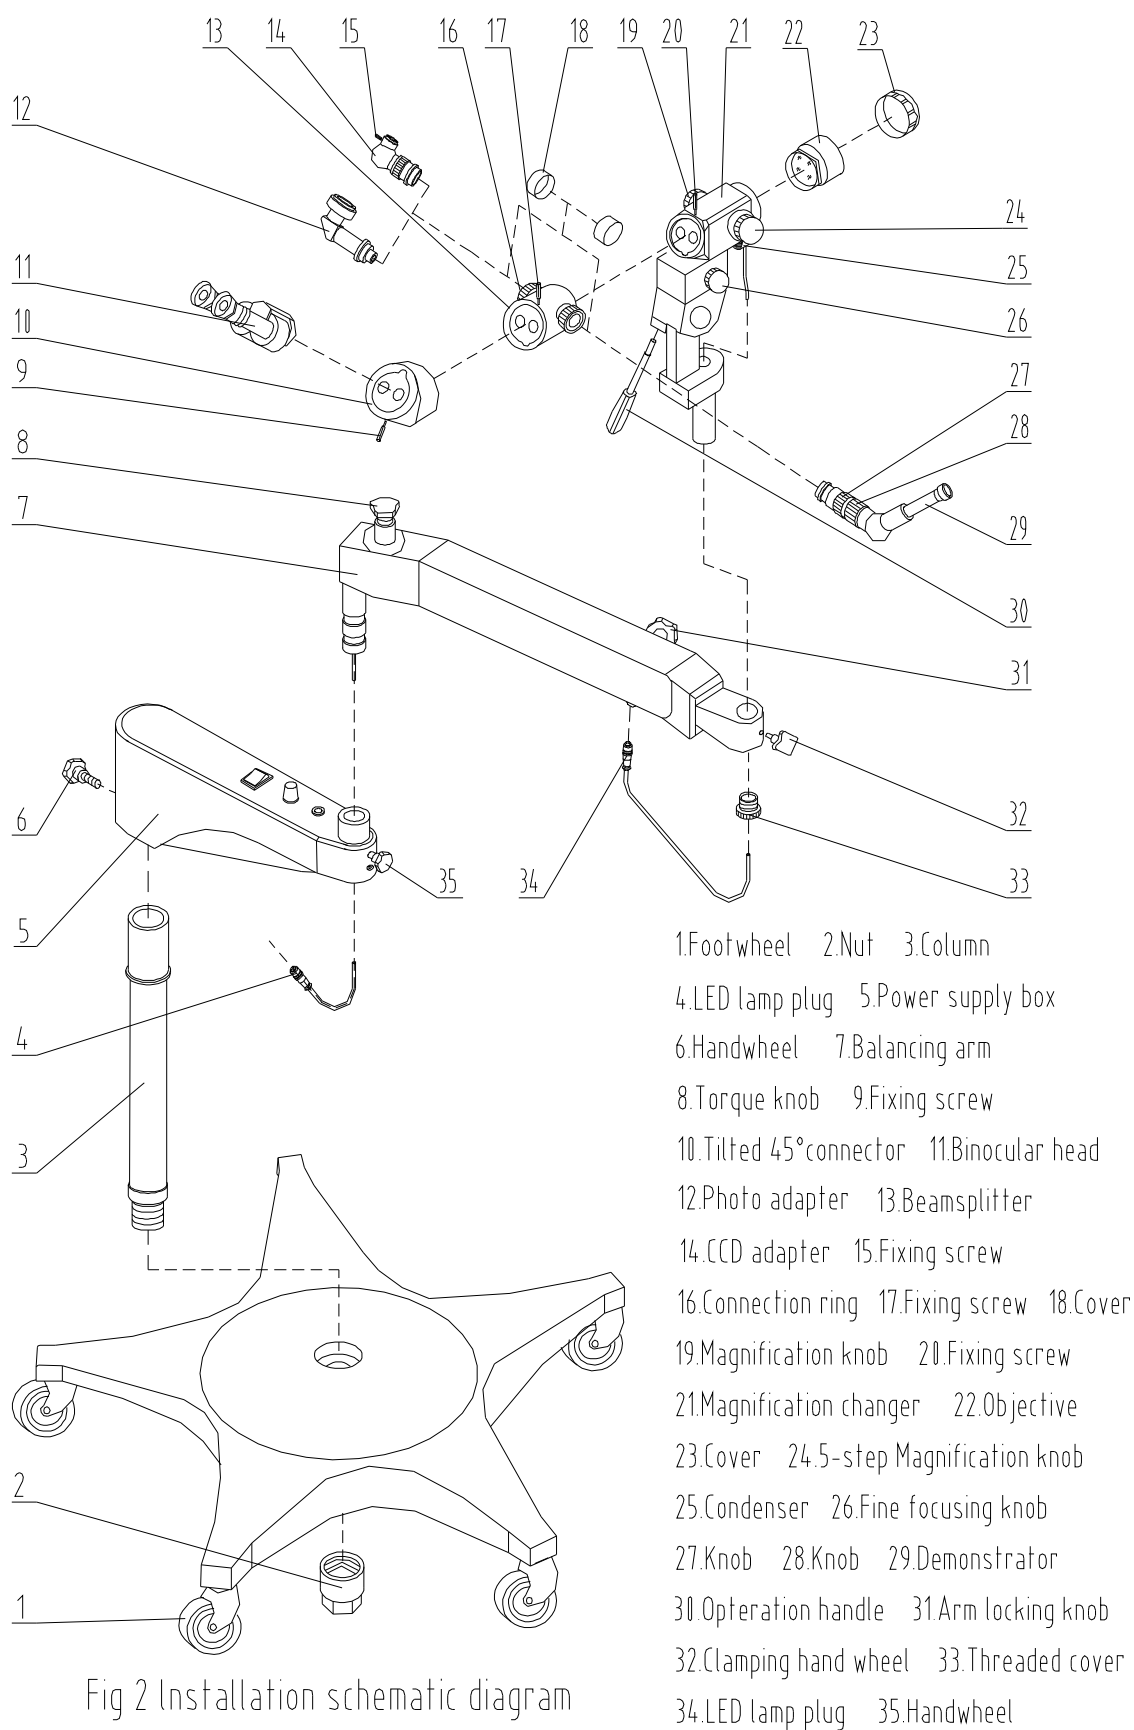
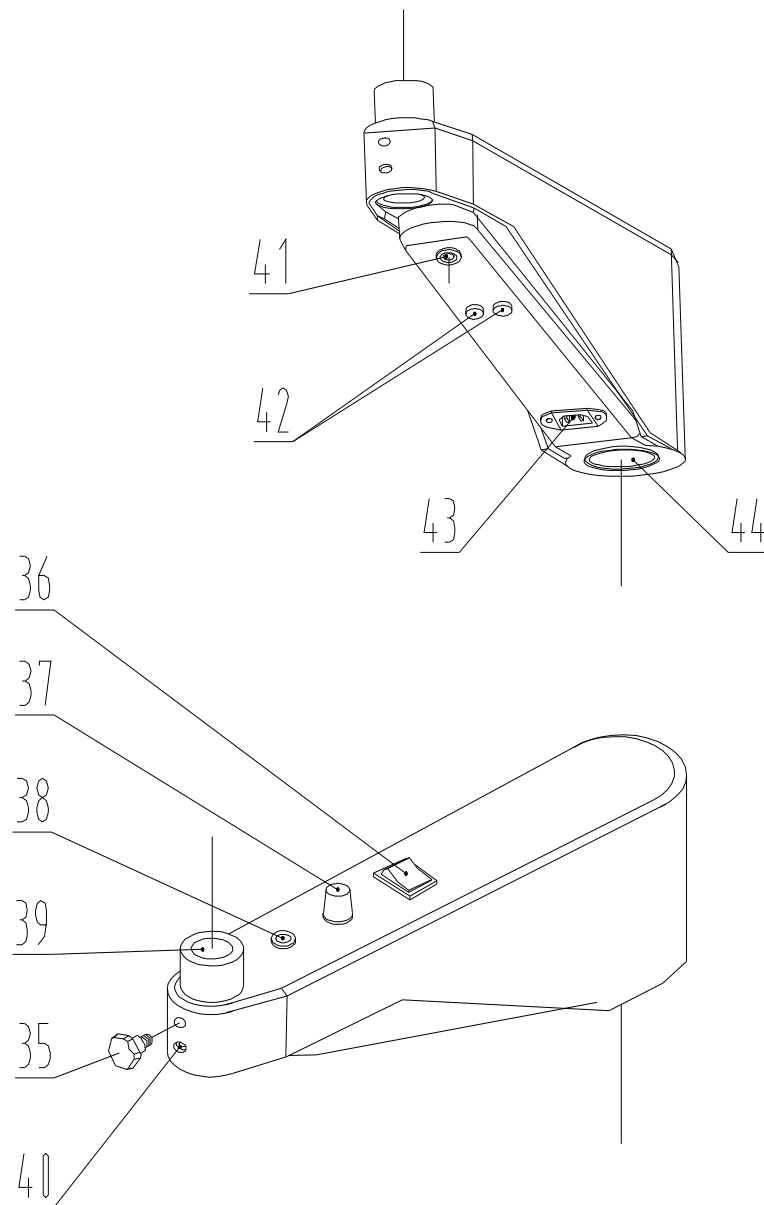

Fig 2 Installation schematic diagram
Fig.3 Power supply box
2.22 . Condenser(**25,fig.2**): Built-in 10W LED lamp.
2.23. Photo adapter(**optional components 12, fig2**):
3. Assembly(fig.2 & fig.3)
Take out the column (3, fig.2) and the 5-star base from the package, turn out the nut (2,fig2) from the column, insert the column (3,fig2) into the hole of 5-star base, then tighten the nut (2,fig2).
Take out the power supply box (5, fig2) from the package, insert it into the column (3,fig2), then fix it with clamping hand wheel (6, fig2).
Take out the balancing arm (7, fig2) from the package, insert it into the power box hole (39,fig3) and fix it with clamping hand wheel (35,fig2).
Take out the magnification changer (21, fig.2) from the package, take off the threaded cover (33,fig2), insert it into the hole of arm, then tighten this threaded cover(33, fig2)
Take out the beamsplitter, install it to the magnification changer and fix it with fixing screw (20, fig2). Take out the tilted 45° connector, install it to the beamsplitter and fix it with fixing screw(17,fig2). Take out the CCD(14,fig2) or photo (12,fig2) adapter , insert it into the any end of the beamsplitter and fix it with the connecting ring(16, fig2) . Take out the demonstrator, insert it into the other end of the beamsplitter and fix it with the connecting ring(16, fig2)
Take out the straight binocular head (11,fig2) from the package, install it to the tilted 45° connector, then fasten the fixing screw (9,fig2).
Insert the LED lamp plug (34,fig2) into the socket under the arm. Insert the plug (4,fig2) into the socket(41,fig3) under the power supply.
- When using CCD adaptor, first see clear image through the binocular head, then turn the fine focusing ring on CCD adapter until the image in the screen is seen clearly. If the direction of image viewed with CCD is different from that viewed with the binocular observation unit, screw out the locking screw(15 fig.2) on the adapter and turn the camera till the image direction is the same as the image viewed with the binocular observation unit, then tighten this screw(15,fig.2).
- Turn on the power switch (36, fig.3).
- Adjust the colposcope nearby working distance, then adjust the fine focusing knob (26,fig.2) to a suitable position.
5.1. Replacing the fuse (see fig. 2)
- Screw off the fuse sockets(42,fig.3), and check which a fuse fusing.